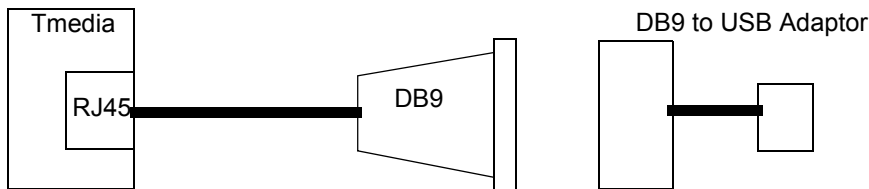

Figure 5.2 Conceptual View of a Serial Connection from the TMG800 to a Computer
2. If your computer's serial port features a DB9 connector, use the DB9 to RJ45 adapter supplied with your Tmedia unit. If your computer's serial port features a USB connector, you will need to provide a USB to DB9 adaptor. Refer to figure 5.2 on page 24.